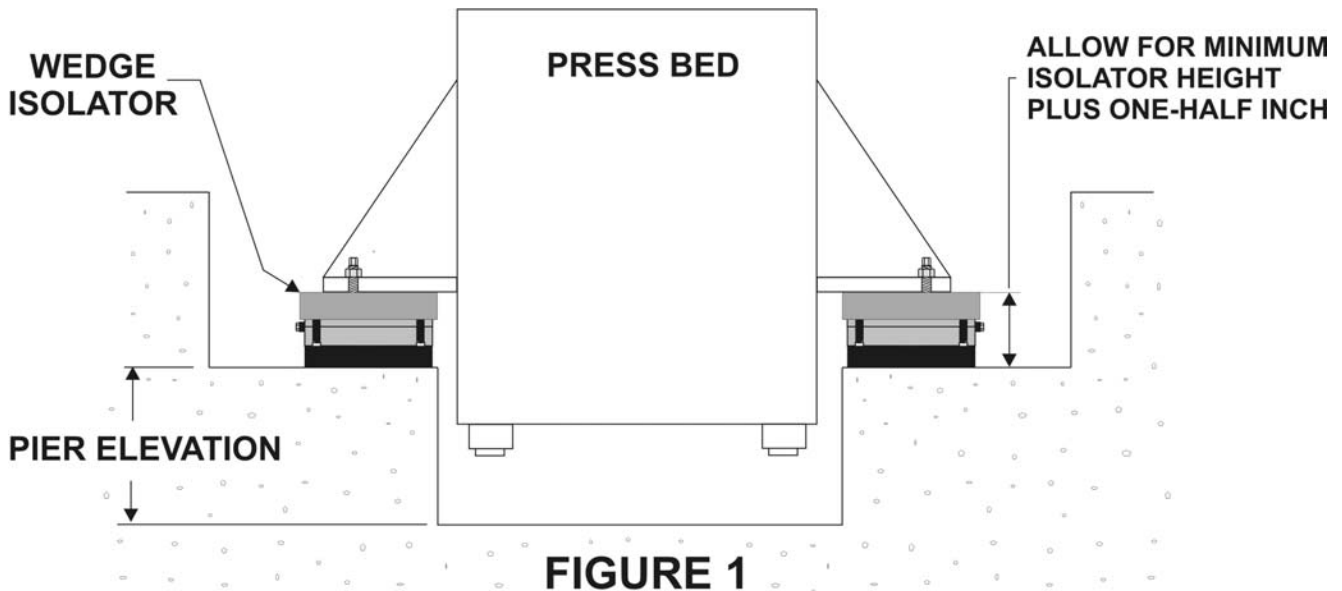

FIGURE 1
- For example, if the Wedge isolator adjustment range is one inches, add one-half inch to the isolator's minimum loaded height to determine its target installation height. (See Figure 1.)